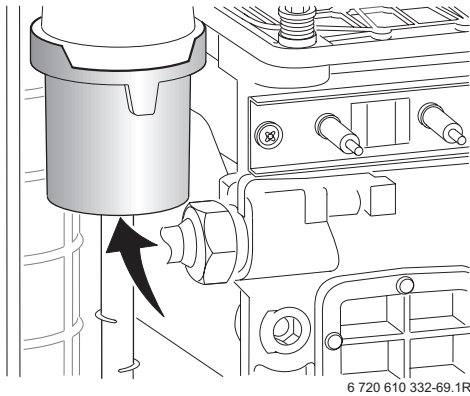

Fig. 46
- ▶ Unscrew the two fixing screws and carefully remove the electrode assembly. Refer to fig. 46.